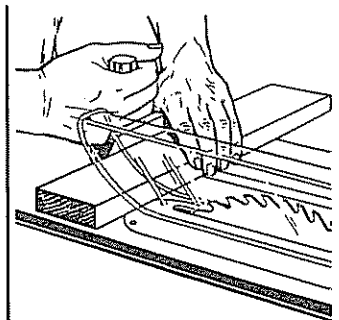

Figure 63
1. Sawing wood across the grain is known as "crosscutting". (See figure 63.) Boards are milled with the grain running the length of the board.